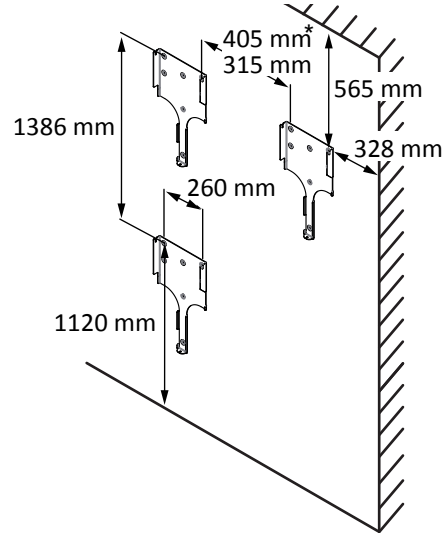

Fig. 13: Position of wall bracket / suspension
- Minimum clearances to be observed during installation: [See figure 13] [▶ Page 17]